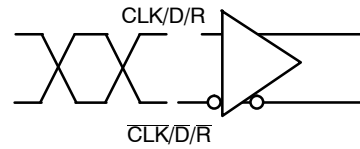

Figure 5. Differential Inputs Driven Differentially
**DIFFERENTIAL INPUT DRIVEN DIFFERENTIALLY (Figures 5, 6 & 8)**